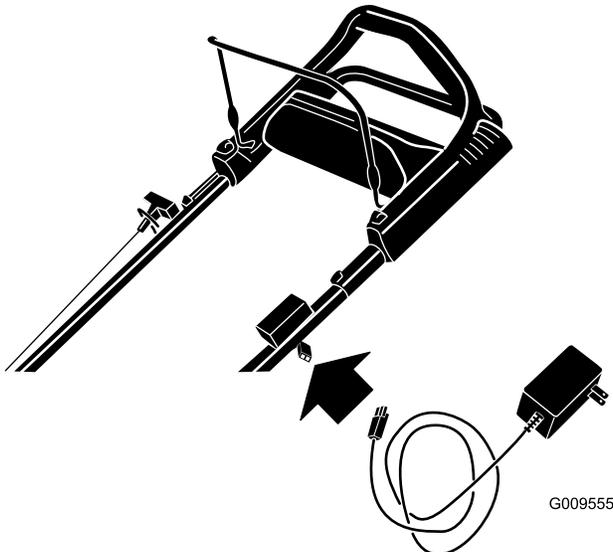

Figure 25
1. Connect the charger to the machine wiring harness located below the electric-start button (Figure 25).